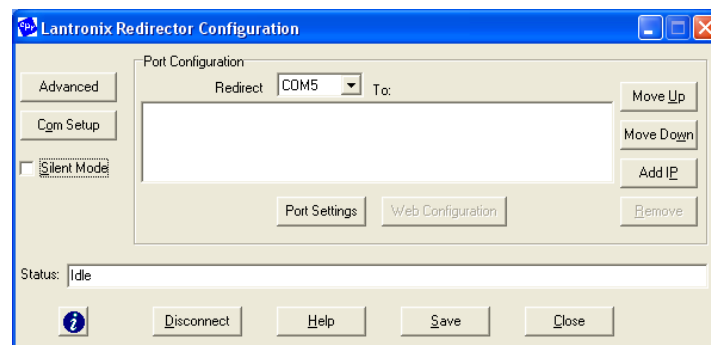

Figure 6.7 – COM Port Redirector Configuration Window
- a. Click the **Start** button in the Windows Taskbar, point to **All Programs, Lantronix, Redirector**, and click **Configuration**. The **COM Port Redirector Configuration** window appears (Figure 6.7).